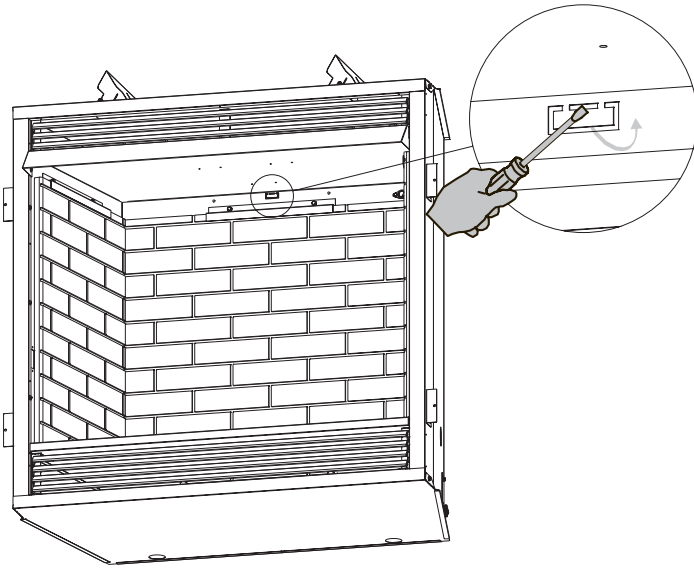

Figure 2
4. Bend the slotted tab in the back panel of the firebox all the way back with a standard screwdriver. See **Figure 2**. This provides an access hole to run the accent light wiring through and down the back of the firebox.